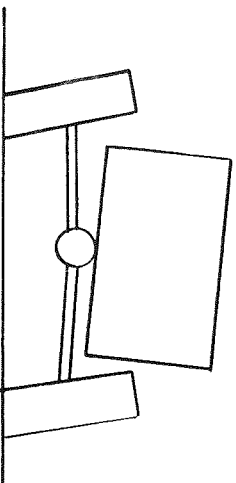

Fig. 8
3. FIG. 8 Body roll increases. More and more of the body weight is carried on the outside wheel, which now provides the majority of the cornering power at the rear. Up until this point, the camber of the wheels produce an UNDERSTEER effect.